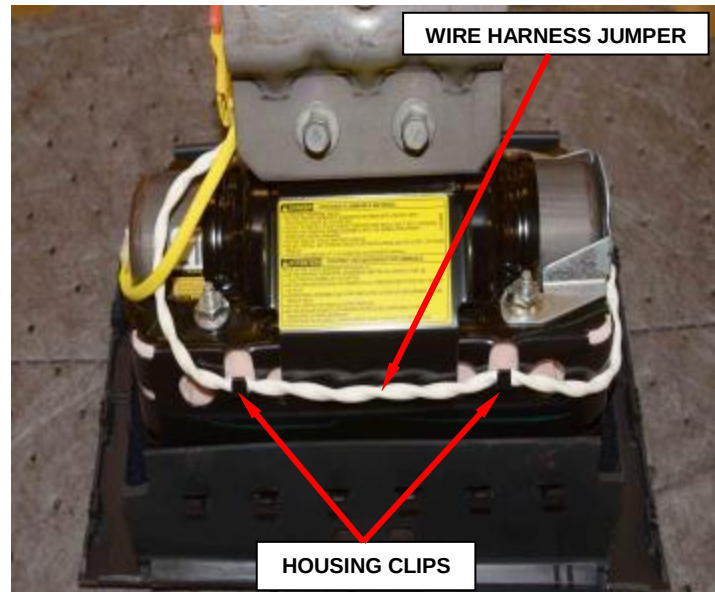

Figure 144 – Passenger Airbag Door
35. Using a trim stick or another suitable wide flat bladed tool, gently pry the forward and side edges of the passenger airbag door away from the top of the instrument panel far enough to disengage the snap features on the door from the receptacles in the instrument panel top pad (Figure 144).